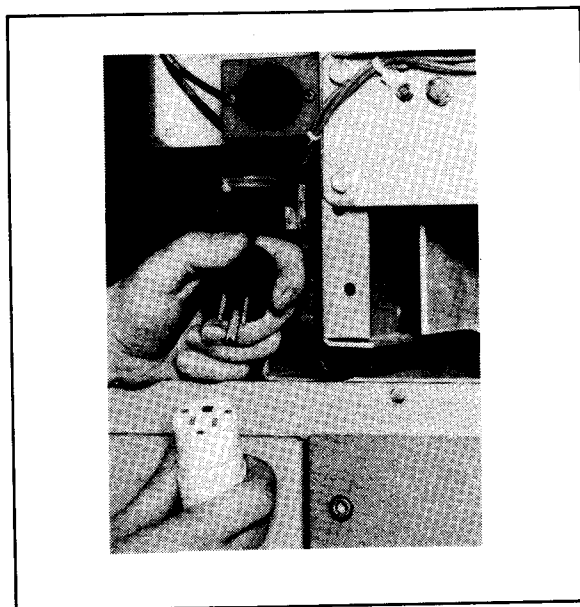

Figure 3.7 — Ampgard Internal View
- ☐ When the Ampgard isolating switch and the high-voltage door are open, the step-down control transformer is accessible. Remove the plug from the receptacle to disable the secondary circuit, as shown in Figure 3.7.
- Temporarily plug the control power receptacle, as shown in Figure 3.7, into a 120 VAC extension cord receptacle. Using a meter, check polarity and verify that 120 VAC ($\pm 15\%$) is present.
- ☐ Temporarily plug the control power receptacle, as shown in Figure 3.7, into a 120 VAC extension cord receptacle. Using a meter, check polarity and verify that 120 VAC ($\pm 15\%$) is present.